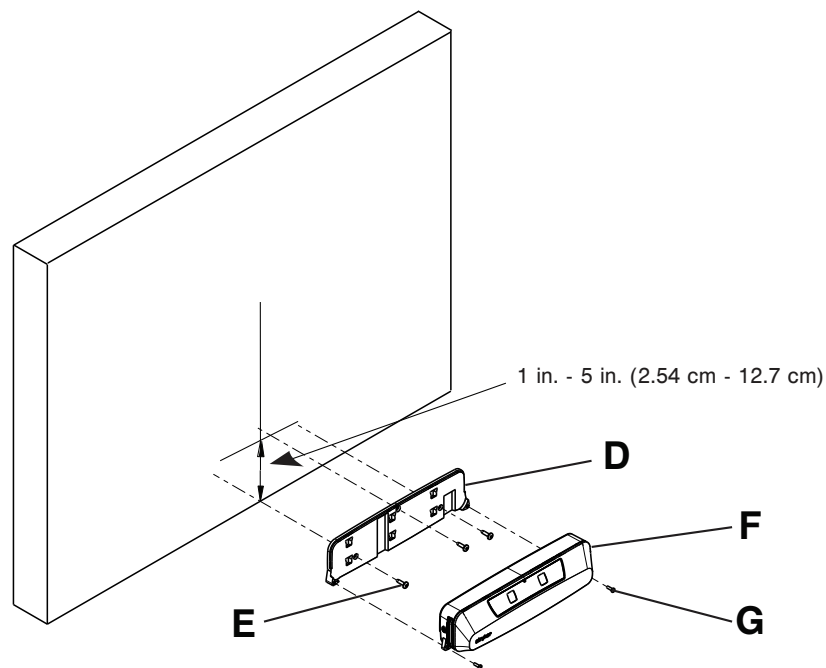

Figure 2 – Mounting specifications
3. Using a #2 Phillips screwdriver, remove the two screws (G) that secure the Secure Connect (F) to the mounting plate (D) (Figure 2). Save the two screws.
2. Using a #1 Phillips screwdriver, remove the two screws (G) that secure the Secure Connect (F) to the mounting plate (D) (Figure 2). Save the two screws.